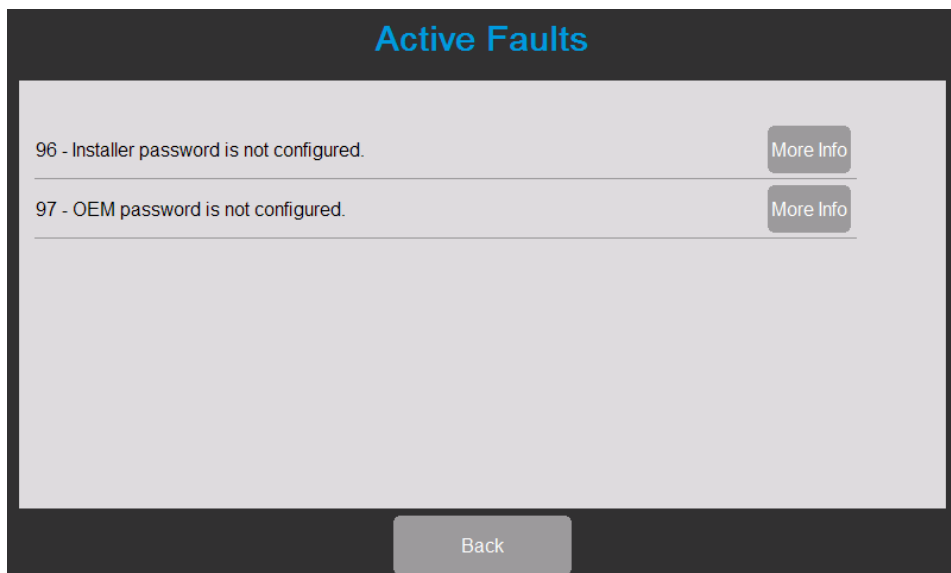

Fig. 88: Fault codes after password reset.
- **After reset to the default values, if the passwords are not set to new non-default values, the valve will be in lockout status and will not be operational unless the appropriate user is logged in. The applicable password(s) must be configured in order to clear the individual fault code(s). Refer to Fig. 88.**